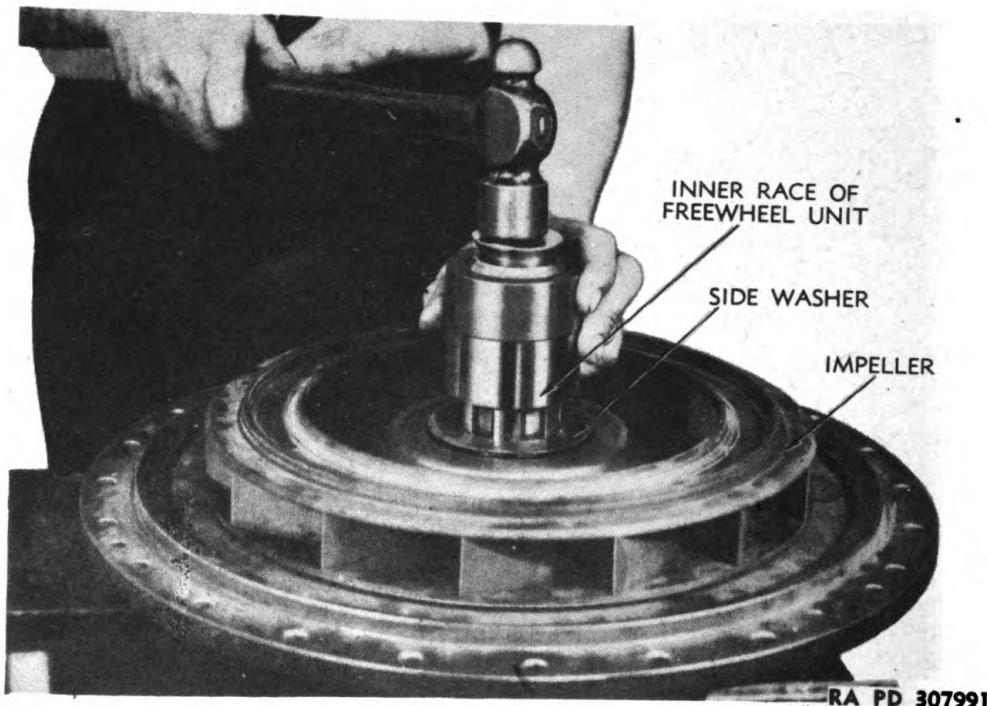

Figure 183 — Installing Free-wheel Inner Race
f. Install Free-wheel Inner Race and Roller Assembly on Input Shaft. Reverse the cover plate assembly to rest it on the input shaft flange, slip side washer onto shaft against impeller and drive or press inner race of free-wheel unit over splines on extension of input shaft as shown in figure 183. Assemble free-wheel cage, carrying rollers and sprags, in place over the inner race. **CAUTION:** *Free-wheel cage must be placed right side out or converter cannot function when assembled.* Observe that when properly placed, as in figure 192, the roller in each section is to the left of the sprag, and to the right of a section partition. Slip the other side washer and the lock washer